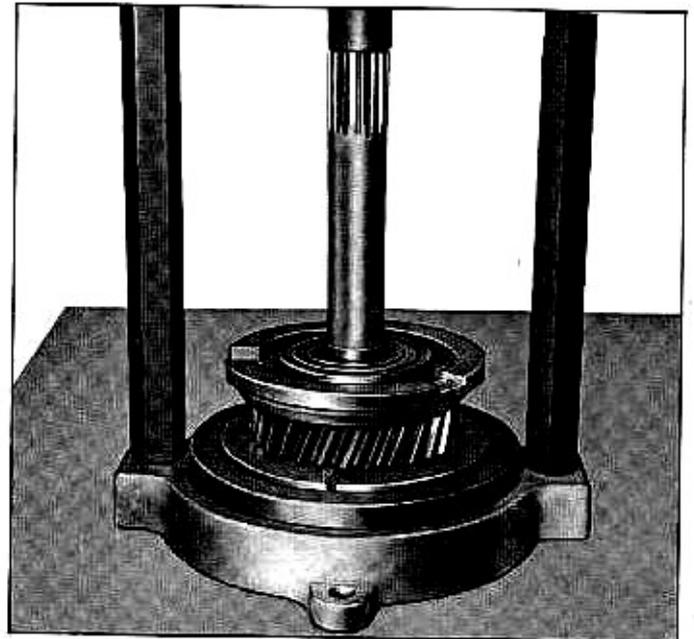

Fig. 5A—Pressing Off Rear Bearing
3. Support reverse gear with press plates (J-9771 or equivalent) and press on rear of mainshaft (fig. 5A) to remove reverse gear, thrust washer, spring washer, rear bearing and bearing retainer assembly.